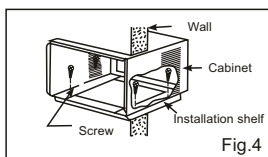

Fig.4
3. Screw the outer box onto the mounting rack. (Fig.4)